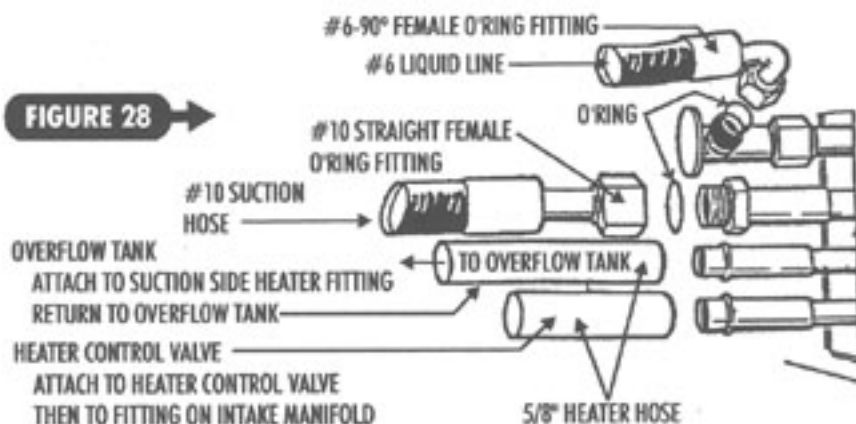

FIGURE 28
- LUBRICATE O-RINGS AND FITTINGS AND ATTACH #6 AND #10 A/C HOSES TO THE EVAPORATOR. (#6 90° FEMALE O-RING FITTING AND #10 STRAIGHT FEMALE O-RING FITTING TO THE EVAPORATOR.) SEE FIGURE 28 & FIGURE 30. ATTACH HEATER HOSES TO THE EVAPORATOR. SEE FIGURE 28.